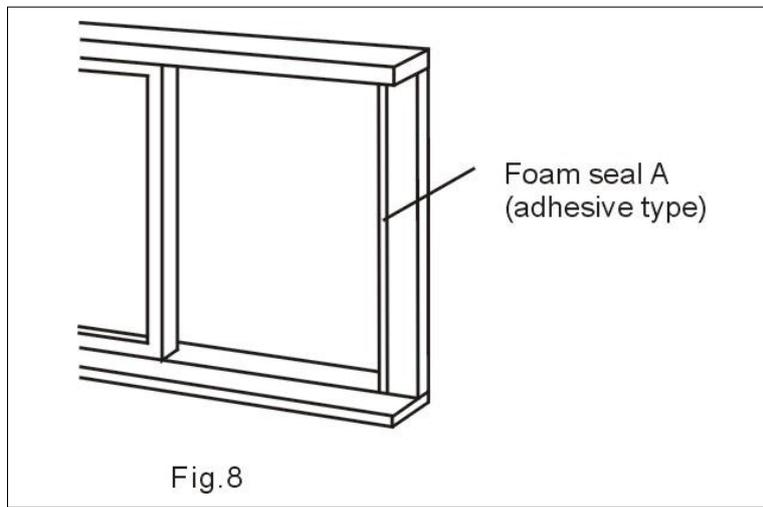

Fig.8
1. Cut the foam seal (adhesive type) to the proper length and attach it to the window frame. See Fig.8.